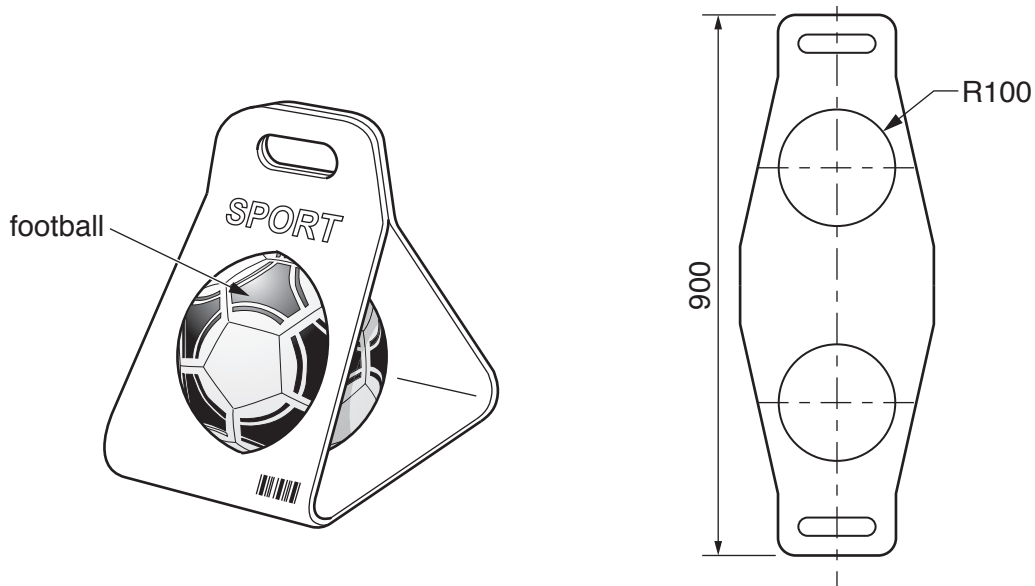

Fig. 6
- 8 Fig. 6 shows an idea for the packaging of footballs.
- (a) State a suitable material for the packaging shown in Fig. 6. Give **two** reasons for your choice. [3]